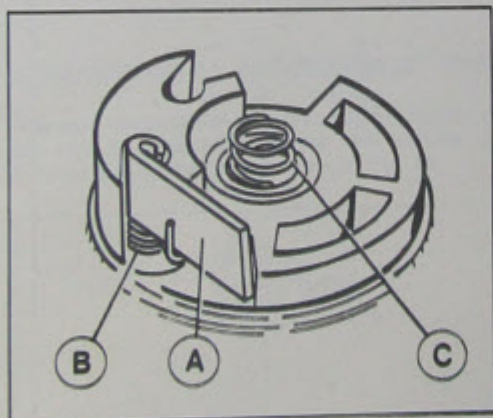

Fig. 19 Dog and brake spring position
- Remove dog return spring B, bearing in mind its position for correct replacement (see Fig. 19).
- Re-fit retainer spring, place dog and brake spring in position (see Fig. 19).